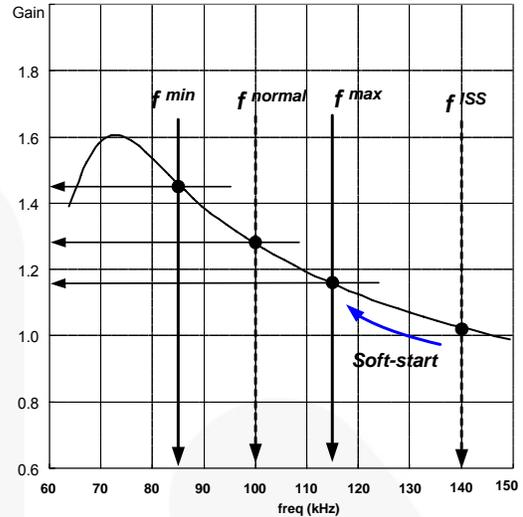
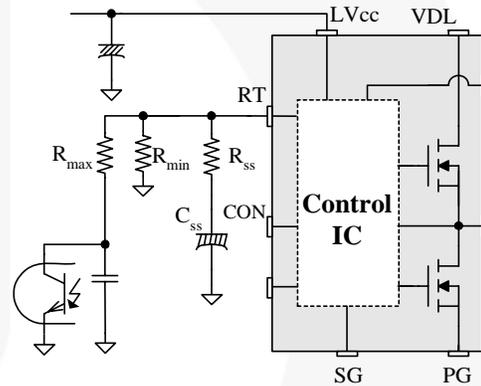

Figure 18. Resonant Converter Typical Gain Curve
Figure 19. Frequency Control Circuit
3. Frequency Setting: Figure 18 shows the typical voltage gain curve of a resonant converter, where the gain is inversely proportional to the switching frequency. The output voltage can be regulated by modulating the switching frequency. Figure 19 shows the typical circuit configuration for R_T pin, where the opto-coupler transistor is connected to the R_T pin to modulate the switching frequency.
To prevent excessive inrush current and overshoot of output voltage during start-up, increase the voltage gain of the resonant converter progressively. Since the voltage gain of the resonant converter is inversely proportional to the switching frequency, the soft-start is implemented by sweeping down the switching frequency from an initial high frequency (f_{1SS}) until the output voltage is established. The soft-start circuit is made by connecting R-C series network on the R_T pin, as shown in Figure 19. FSFR-series also has an internal soft-start for 3ms to reduce the current overshoot during the initial